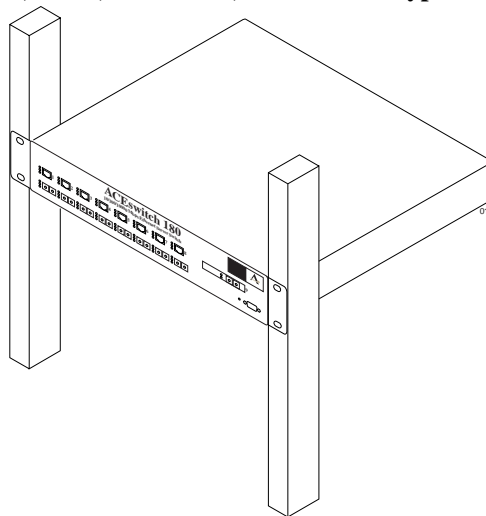

Figure 4 Rack Mounted Alteon 180e/DC
4. To install the unit in a rack, use the appropriate screws for your rack-mount system (four 10-32, 12-24, M5X.8-6H, or M6X1-6H type screws), as shown in Figure 4.